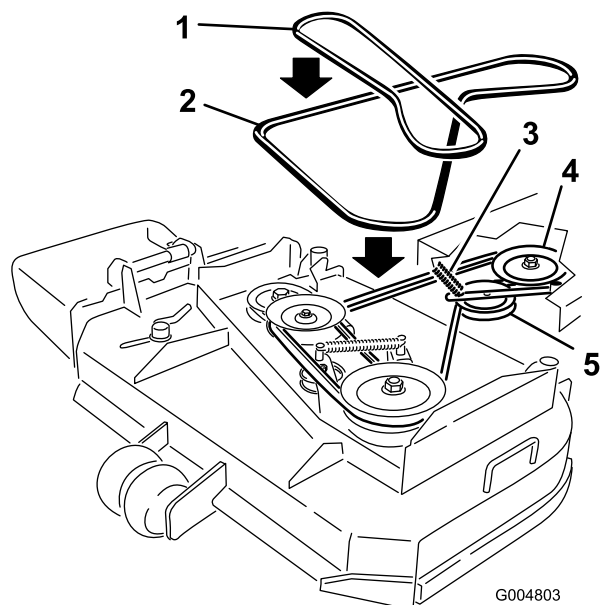

Figure 45
6. Roll the belt off of the center pulley on the mower deck (Figure 45). Use caution when removing the belt as tension will increase because of the spring loaded idler pulley.
7. Remove the belt from the engine pulley and the spring-loaded idler pulley (Figure 45).
8. Install the new belt onto the engine pulley and spring-loaded idler pulley (Figure 45).
9. Roll the belt onto the center pulley on the mower deck (Figure 45). Use caution when install the belt as tension will increase because of the spring loaded idler pulley.